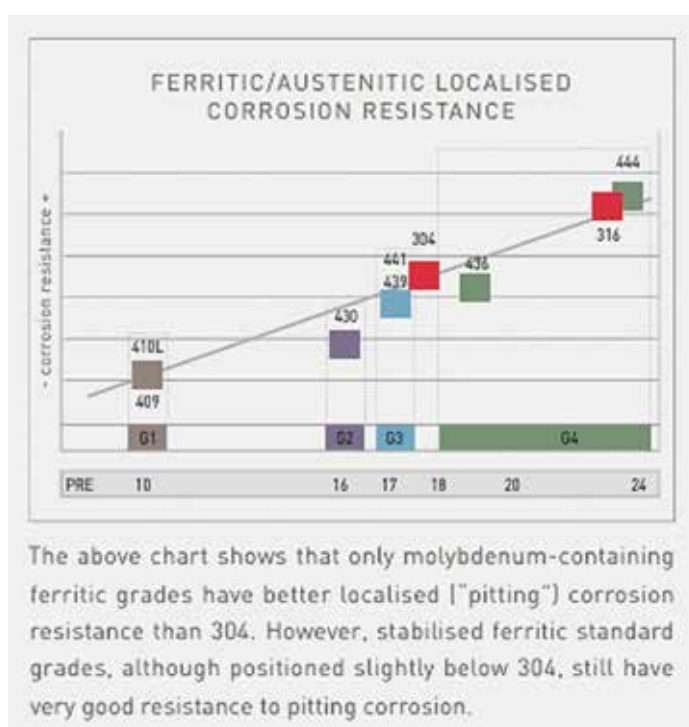

Figure 2: International Stainless-Steel Forum: Ferritic / Austenitic Localised Corrosion Resistance.
- Later 400 Series ferritic STS typically have <1% Ni, and volatility in the Ni price has driven companies such as IKEA to make a sustained effort to change from 300 Series to 400 Series STS for applications in benign household environments. The World Stainless Association has pointed out that 400 Series STS with enhanced corrosion resistance are available, which can replace 300 Series STS in most environments at ambient temperatures (see Fig. 2).